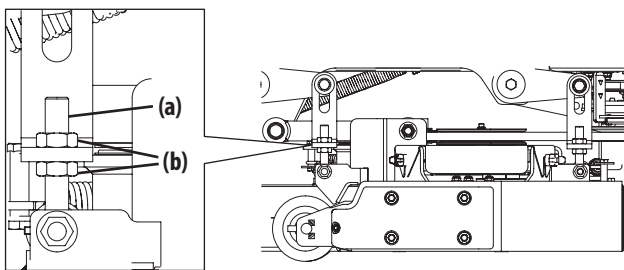

Figure 31
3. Adjust the eyebolt (a) at the left front of the deck so that the blade-to-ground height at the right outside blade tip matches that of the left outside blade tip. This is done by loosening the jam nuts (b) on the eyebolt (a) and tightening the upper jam nut (b) to raise the deck and loosening the jam nut (b) to lower the deck. The right outer blade tip height is fixed by the right, front eyebolt (a) so you must adjust the left outer tip to match it (Figure 31).
4. Once the proper adjustment is made, re-tighten the jam nuts (b) (Figure 31).
3. Loosen the jam nuts (b) at the rear left and right of the deck eyebolts (a) (Figure 31).
4. Start at the right rear to raise the rear of the deck, tighten the upper jam nut (b) to raise the deck or loosen the upper jam nut (b) to lower the deck (Figure 31).
5. Adjust the jam nut (b) at the left rear to take the "slack" out of the threaded rod (Figure 31).
6. Tighten both lower jam nuts (b) to secure the deck adjustment (Figure 31).
7. The final adjustment would be to take the "slack" out of the left rear linkage if the rear of the deck was raised by adjusting the jam nuts (b) on the eyebolt (a). Loosen the jam nuts (b) and tighten the upper jam nut (b) to remove "slack" (Figure 31).
8. In many cases it will be necessary to adjust deck height using both eyebolt (a) adjustments and pitch adjustment to achieve the correct blade-to-ground heights (Figure 31). If you remember that the front right blade tip adjustment is fixed and you level to that height, adjusting the decks will be simplified.